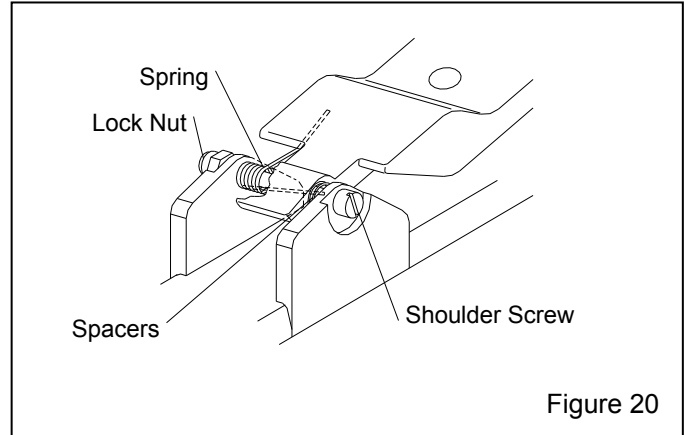

Figure 20
6.9.3 Handle lever replacement, Figure 20
6.9.3.1 Remove the lock nut from the shoulder screw. Before removing the screw, note the positions of the spacers and spring as shown in Figure 20. The bent end of the spring is against the handle lever, facing up. The straight end is against the body, facing down.